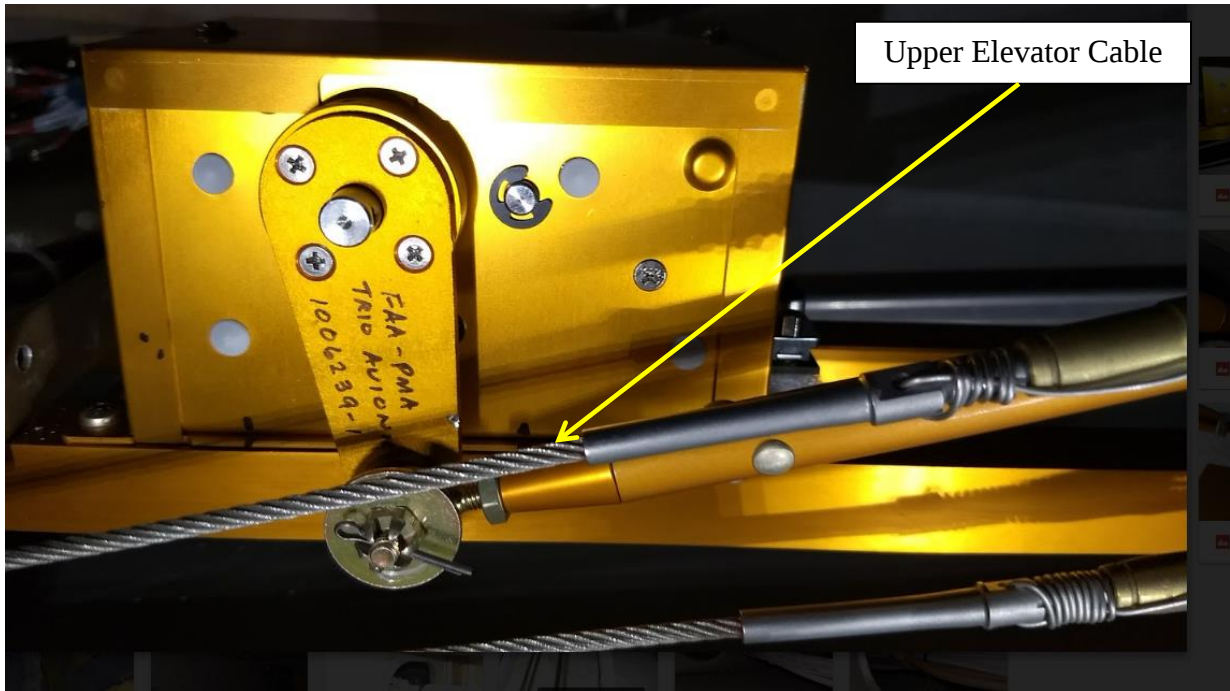

FIGURE 4-14 PITCH SERVO ARM ALIGNMENT NEUTRAL POSITION
53. Ensure that the servo arm is oriented with the upper elevator control cable as depicted in depicted in Figure 4-14.
56. The servo arm should be positioned as depicted in Figure 4-14 when the elevator pitch controls are in the neutral position.
57. Position the upper elevator cable clamp to allow the pitch controls to fully deflect with the pitch servo arm centered. Refer to Figure 4-14.